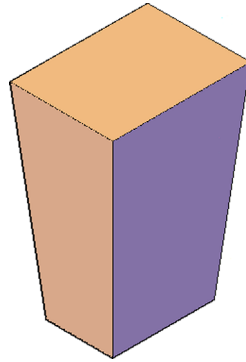

FIGURE 24.17 Completed taper.
Step 6. This final request asks for the amount of taper in degrees. Enter a small value, perhaps 4 or 5, and press Enter. The block tapers evenly on all sides. The result in shade mode is shown in Fig. 24.17.